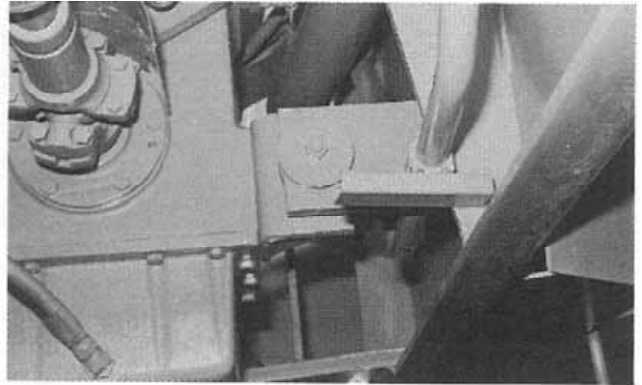

Figure 7:
9. Install the rubber mounts and through-bolts at the lower transfer case mount brackets (Fig. 7).